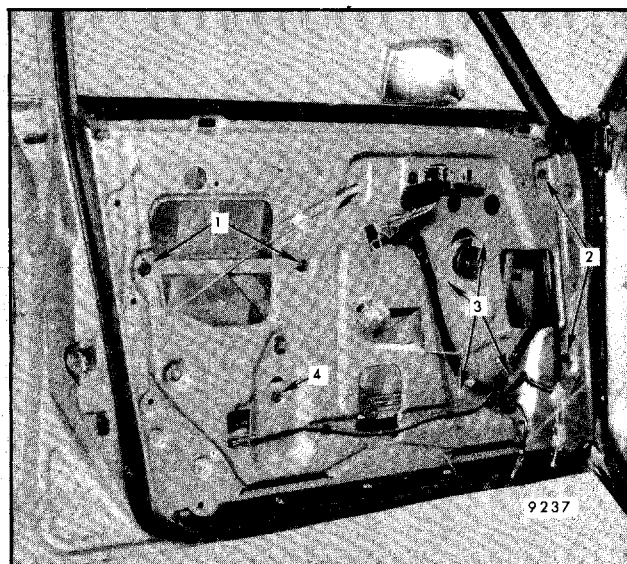

Fig. 5-128 - Window Hardware Attachments - "K" Styles
1. **WINDOW ROTATED** - Loosen door window inner panel cam attaching screws ("1", Fig. 5-128) and adjust glass as required. Torque attaching screws to 72 in-lb.
2. **WINDOW TOO HIGH OR TOO LOW IN DOWN POSITION** - Loosen window down stop ("4", Fig. 5-128) and raise or lower window to desired full-down glass height. Then position down stop against lower edge of glass and tighten attaching screw to 72 in-lb.
2. Mark location and remove inner panel cam attaching screws ("1", Fig. 5-128), then remove inner panel cam.